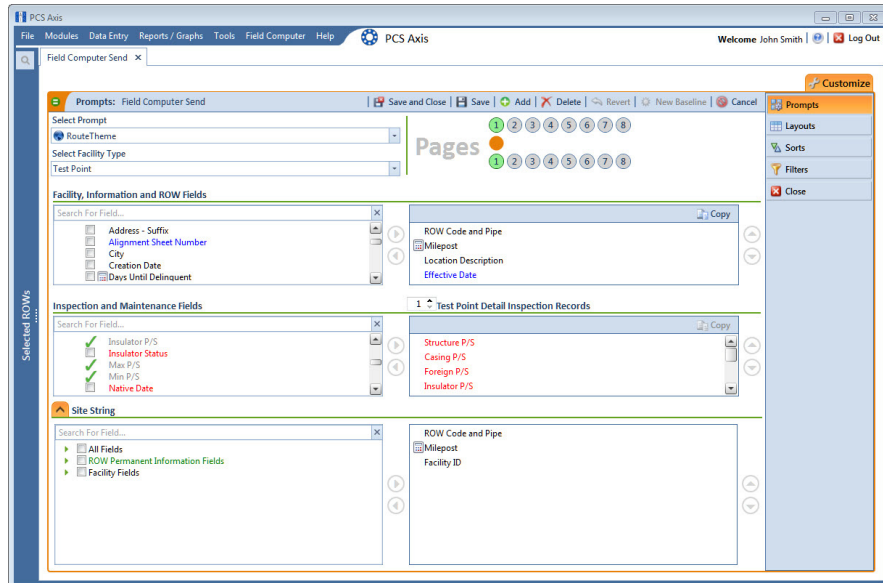

Figure 8-26. Site String Fields
- a Click the  **Site String** tab to view a list of fields available for selection (Figure 8-26).